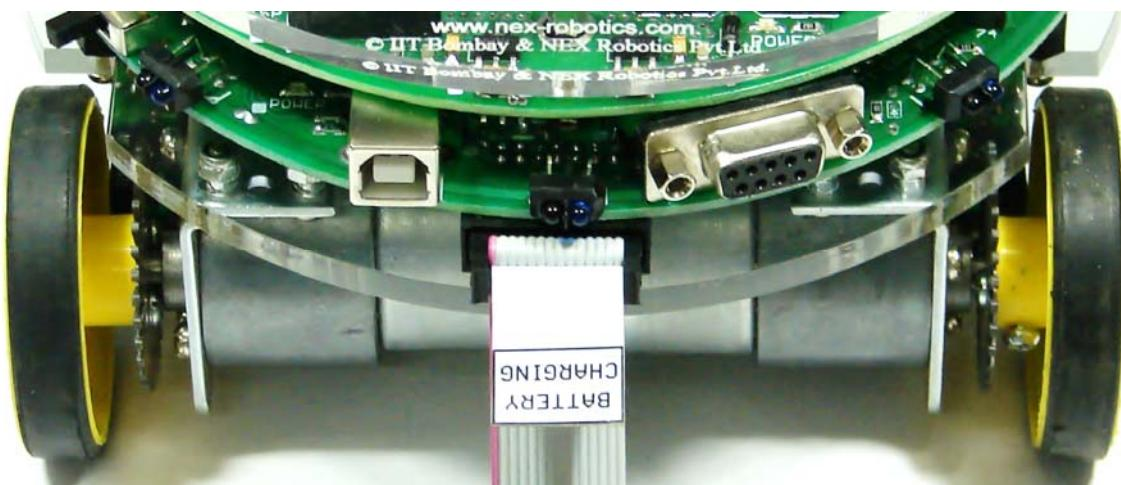

Figure 3.16: Connection for battery charging
3. Insert one end of the 14 pin FRC Battery Charging cable, which is marked with the label "Battery Charging" in to the "Battery Charging / Auxiliary Power" socket of the robot. It is located at the back side of the robot as shown in the figure 3.16. Insert the other end of the connector in to "Battery Connector 1" of the battery charger which is shown in the figure 3.15. To start the battery charging, press button marked with "Start Push Button". After a small delay green LED will turn on which indicates battery is being charged.